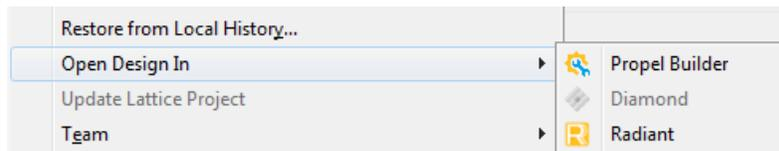

Figure 3.9. Project Explorer Popup Menu
- Right-click the SoC project from **Project Explorer**. Choose **Open Design In >  Propel Builder** from the popup menu (Figure 3.9).